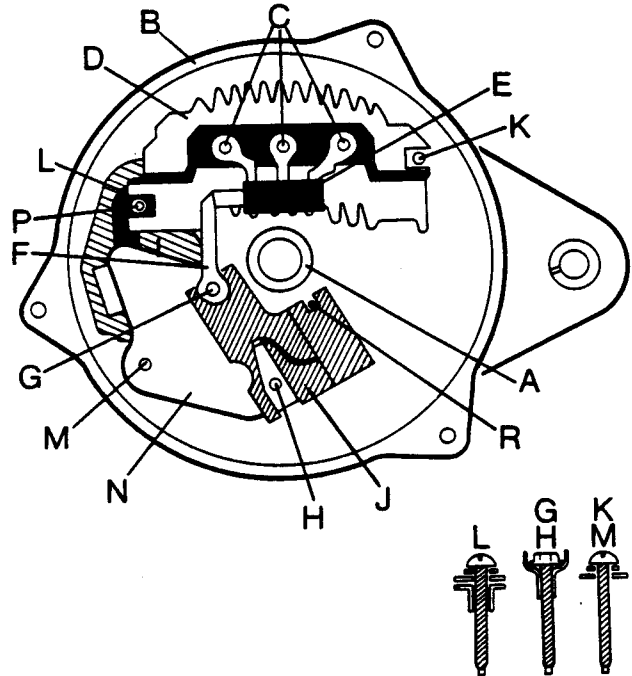

Figure H39
10. Remove the pin R, Figure H39, which is holding the brushes into the holder.